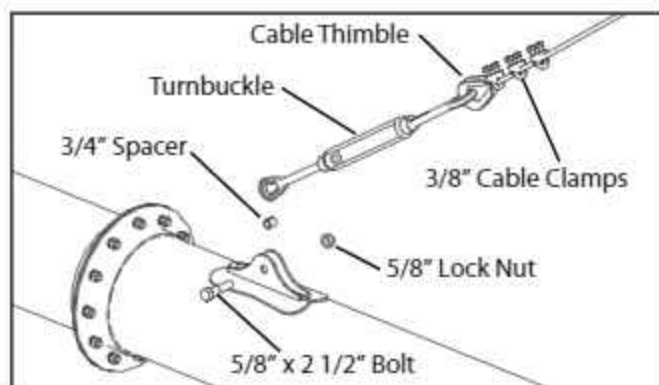

FIG. 3-14. Truss Cable Mounting
18. Attach one end of a turnbuckle to the tube using the fasteners shown in Fig. 3-14. Make sure the turnbuckle is fully extended.
20. Thread the cable around the thimble. While wearing gloves, pull the cable as tight as possible and install a clamp about 12" from the centre of the eye bolt. Install a second clamp as close as possible to the cable thimble. Install a third clamp half way between the other two. See Fig. 3-14 for the proper clamp orientation.
23. Attach one end of a turnbuckle to the tube using the fasteners shown in Fig. 3-14. Make sure the turnbuckle is fully extended.
25. Thread the cable around the thimble. While wearing gloves, pull the cable as tight as possible and install a clamp about 12" from the centre of the eye bolt. Install a second clamp as close as possible to the cable thimble. Install a third clamp half way between the other two. See Fig. 3-14 for the proper clamp orientation.